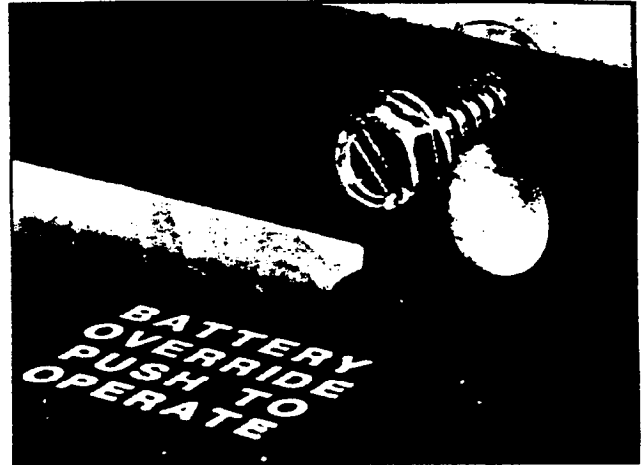

FIGURE 7—MPSA
01.25 Position the power supply so that the narrower portions of the keyholes slip over the screws (Figure 7), and (if the unit is wall-mounted) the weight of the power supply is supported. Tighten the screws.